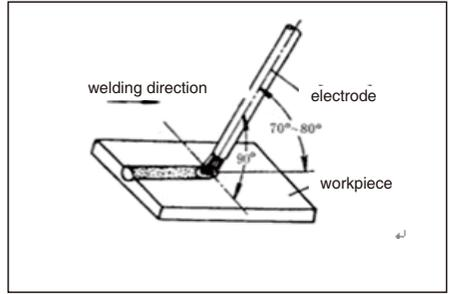

Fig 22 Angles of electrode in flat welding
(1) **Welding angle:** the electrode should be inclined $70 \sim 80^\circ$ forwards. (See Fig 22)